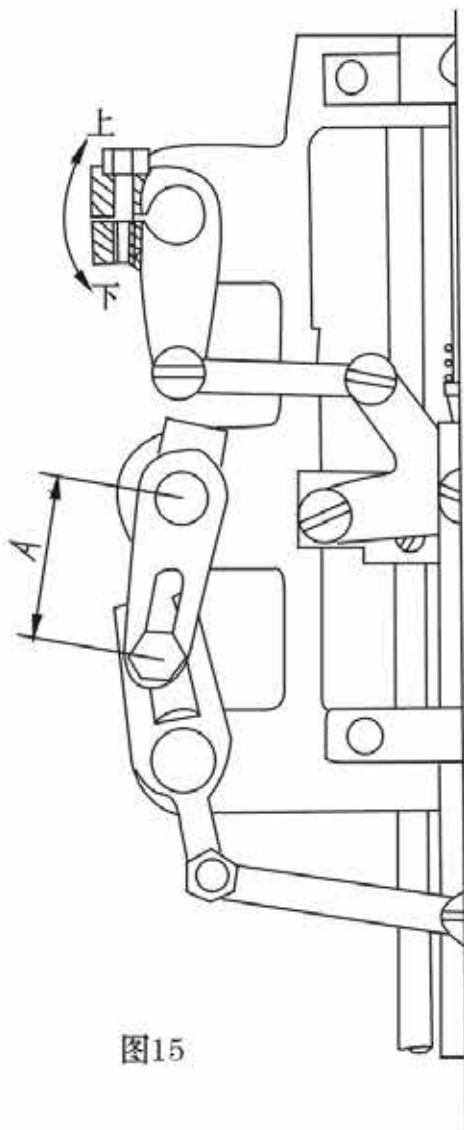

图15
正确的压脚压力标准为, 能够使缝料通过送料牙被平整地向前输送, 并不能有任何缝料打滑现象发生。压脚的压力要根据缝料的厚度加以调节。首先旋松调压螺钉锁紧螺母B, b, 如缝纫厚料, 应加大压力, 这时将机头顶部的调压螺钉A, a按图15 (C) 所示箭头方向旋动; 反之, 缝纫薄料时可按图八(D)所示箭头方向转动调压螺钉, 以减小压脚的压力。最后旋紧调压螺钉锁紧螺母B, b即成。
The right foot pressure standard, can make the material feeding teeth was flattened by Forward delivery, does not have any material slippage. Foot pressure should be adjusted according to the material thickness. First unscrew the pressure regulating screw nut B, b, such as sewing thick material, should increase the pressure, then the head at the top of the pressure regulating screw A, Figure 15 (C) a according to the direction of the arrow shown turn; conversely, sewing thin material according to plans Eight (D) shows the direction of the arrow rotating pressure regulating screw, so as to reduce the foot pressure. most After tightening the pressure adjusting screw nut is B, b.
三十一、压脚交叉提升机构的调节 (图15)
31. Alternative lifting mechanism adjustment of presser (shown in fig 15)